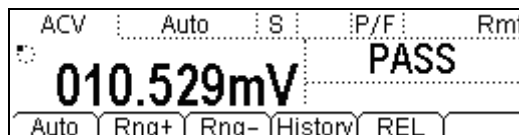

Figure 3-11 P/F Test result
(3) Press **ON** to start P/F testing. As shown in Figure 3-11, The test result is "PASS" as the measured value is between 0V and 1V.